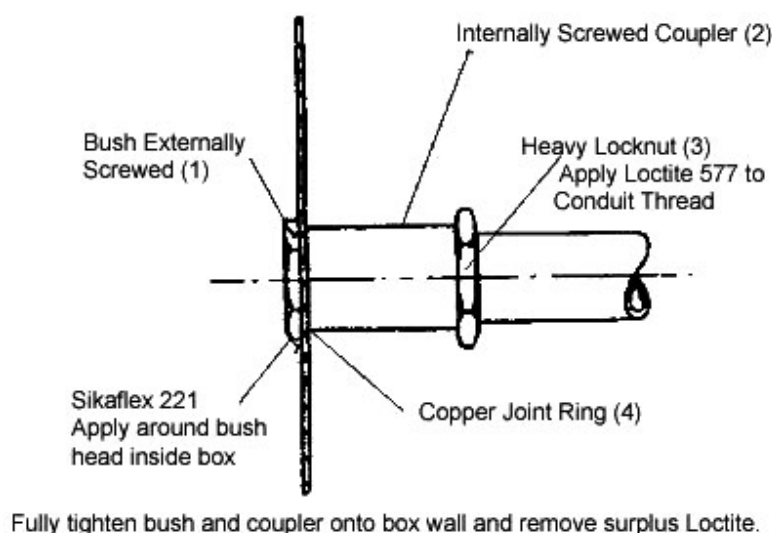

Figure 2: Details of Joint Between Conduits and Outer Terminal Box
Materials for Figure 2
- Assemble three conduits to outer terminal box in accordance with Figure 2.